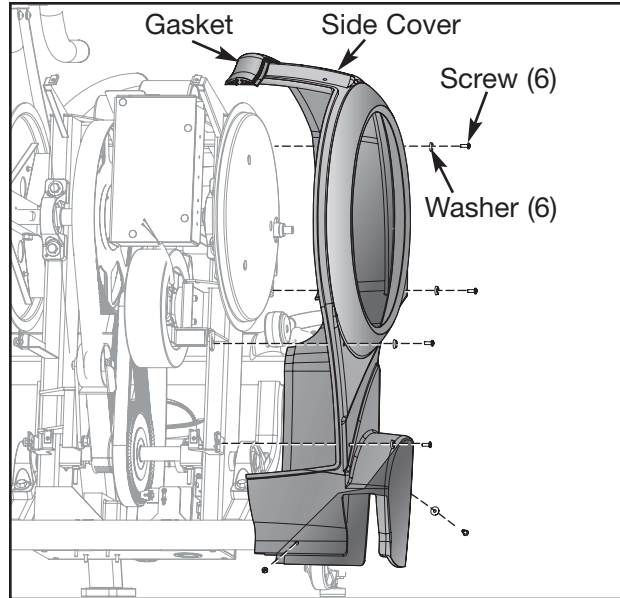

Figure 5
- A. Remove the six screws and six washers securing each side cover in place. See Figure 5.
- B. Remove both side covers. **NOTE:** The gasket will come off with one of the side covers. See Figure 5.
- B. Using a Phillips head screwdriver, tighten the six screws and six washers securing each side cover. See Figure 5.